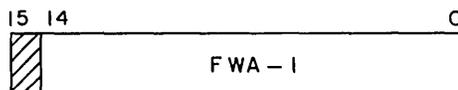

Figure 9. A Register During Write, Read, or Compare Output Function
Write (011), Read (100), or Compare (101): For these output functions, the A register contains the first word address minus 1 of the buffer area to be used. See Figure 9.